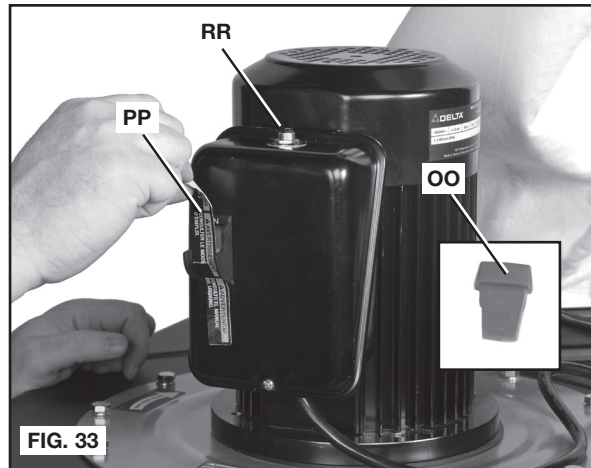

FIG. 33
NOTE: The dust collector is shipped with the safety switch toggle (OO) Fig. 33 removed. The toggle must be inserted into the dust collector switch and the switch placed in the "OFF" position before operation.
STARTING AND STOPPING DUST COLLECTOR (FIG. 33)